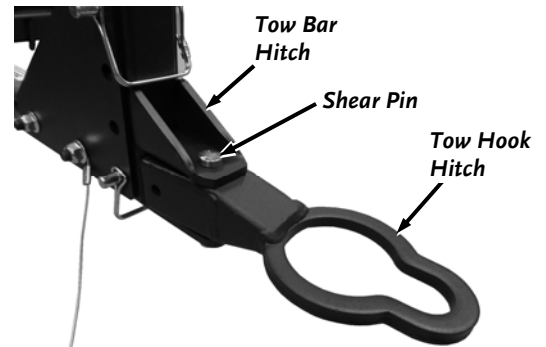

Figure 27
1. Insert the square portion of the Tow Hook Hitch into the opening of the Tow Bar Hitch (**Figure 27**).